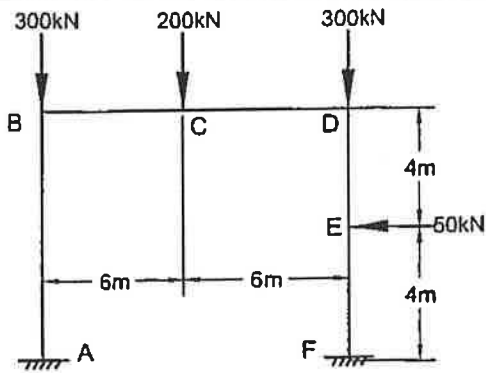

FIGURE1
1. The rigid frame in Fig. 1 is to be designed in reinforced concrete construction. Using the Limit State Design method, design member BCD, for flexure and shear. Sketch the reinforcing details for member BCD. Assume the same stiffness for all members.
2. Using the same R.C. frame in Fig. 1, design member DEF as a beam-column and sketch the reinforcing details.
3. Estimate the long-term deflection at mid-span of BCD in Fig. 1. Also, estimate the size of the support footing at F. Assume a value for the soil bearing capacity of 500 kPa.